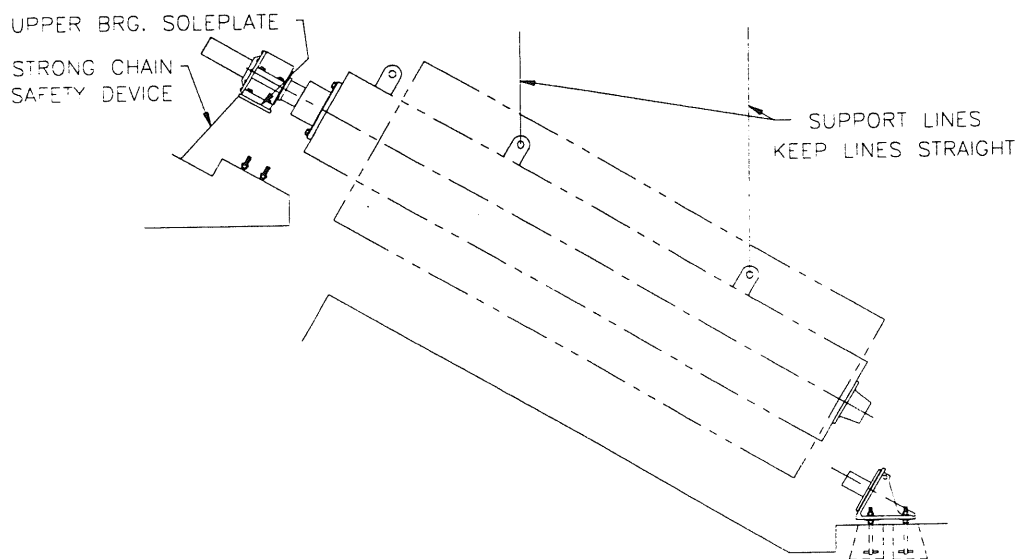

Figure D4
- a. Use two cranes or other means which will not damage the flights or bend the torque tube to lower the screw assembly into the trough, Figure D4. When the pump is about 1' from the trough, secure the upper bearing plate to the gearbox base with a strong chain to prevent the screw pump from sliding onto personnel stationed at the lower bearing.